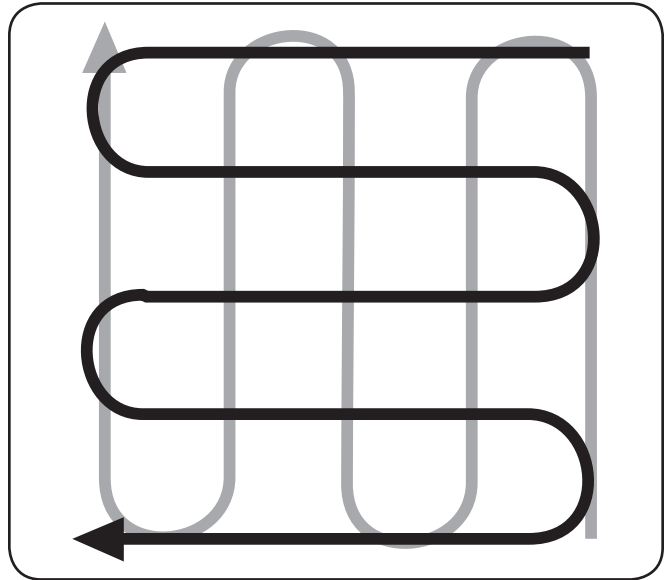

Figure 4-12
- When finished in one direction, make a second pass at a right angle. See Fig. 4-12. Overlap each pass for best results. In very hard ground it may take three or four passes to thoroughly pulverize the soil.